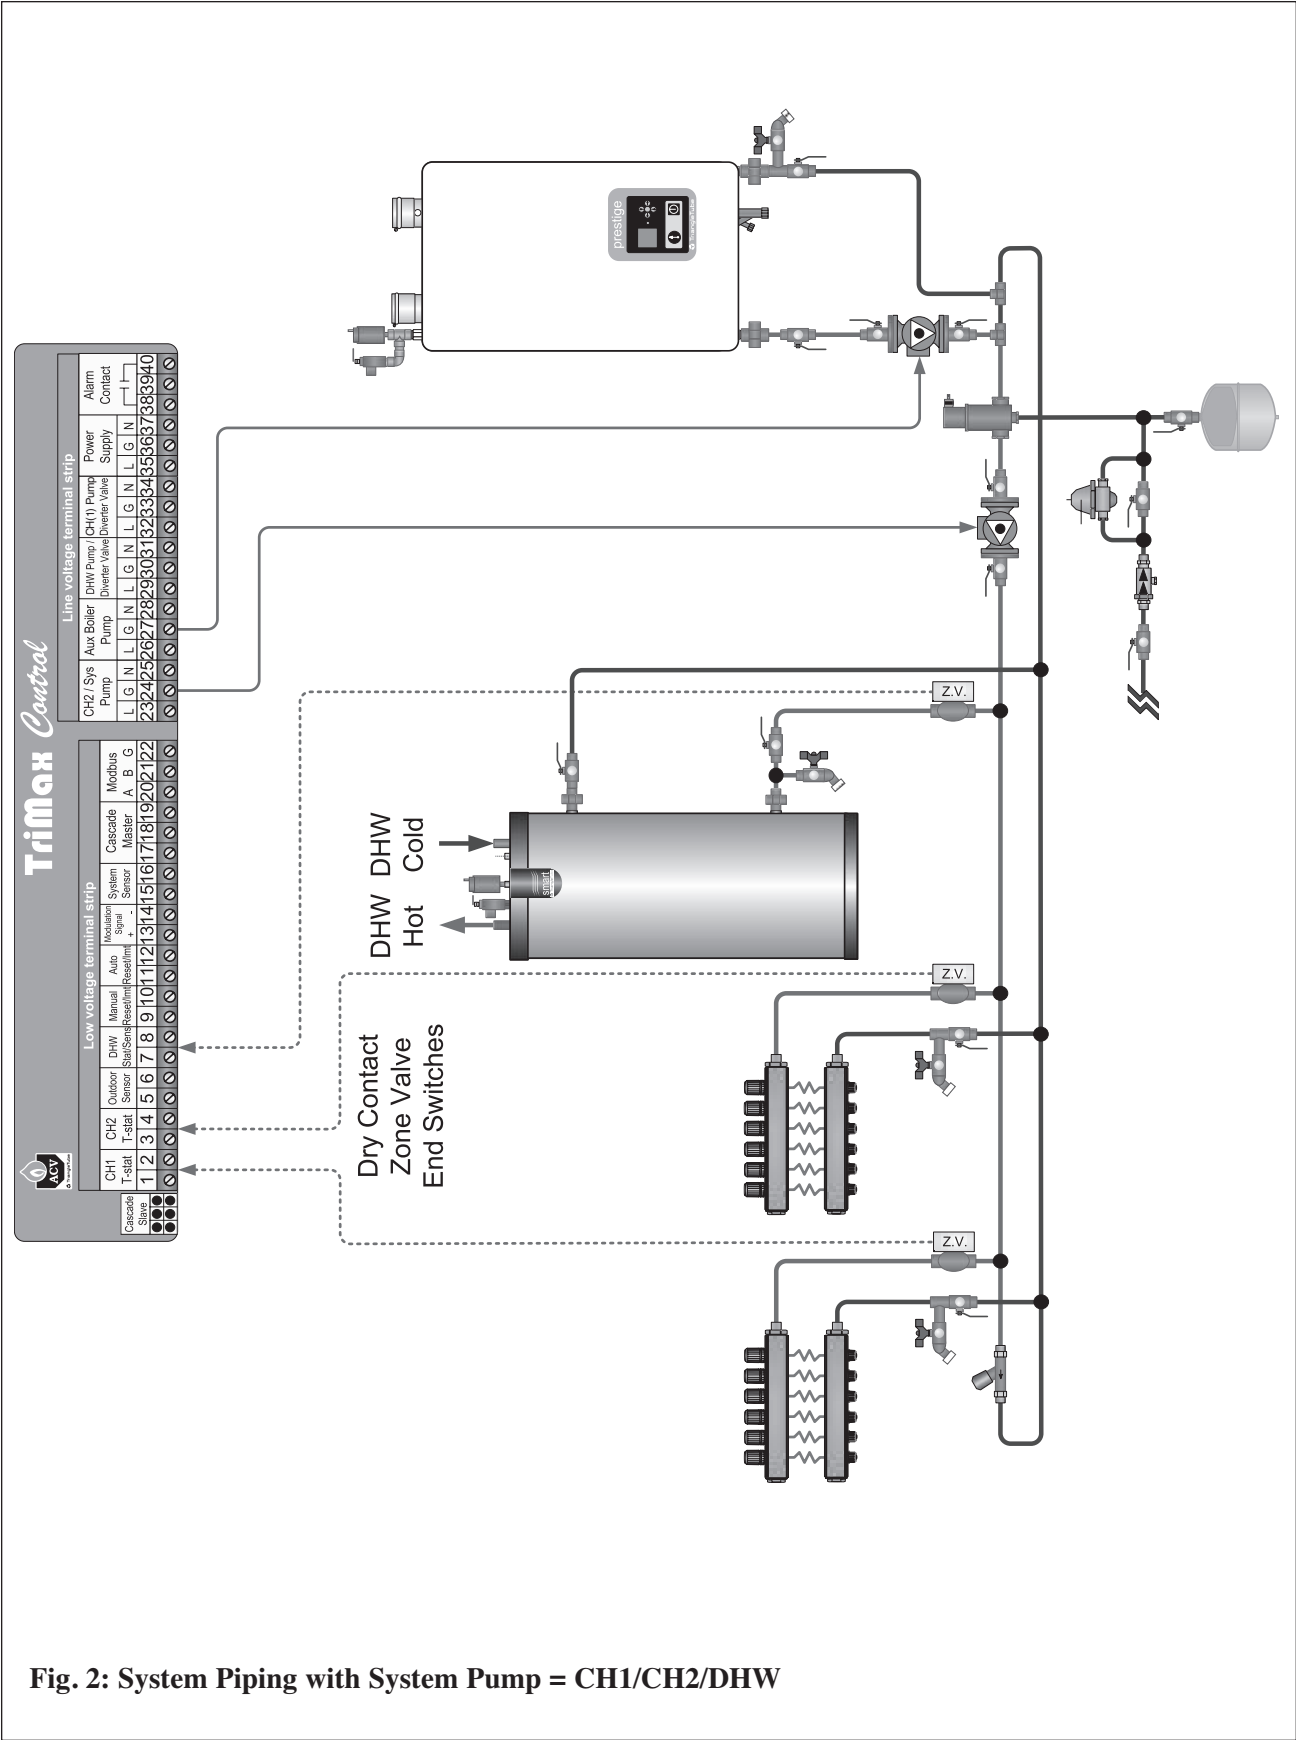

Fig. 2: System Piping with System Pump = CH1/CH2/DHW
- **CH1/CH2/DHW** – The system pump will be enabled for any CH1, CH2, or DHW call. Figure 2, page 11 illustrates a typical existing system requiring this setting.